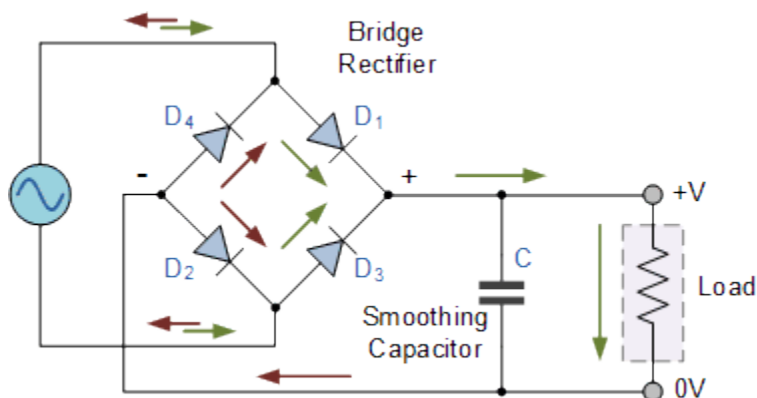

Figure 3.7: Full Wave Bridge Rectifier
- Connect the circuit as shown in the figure 3.7.